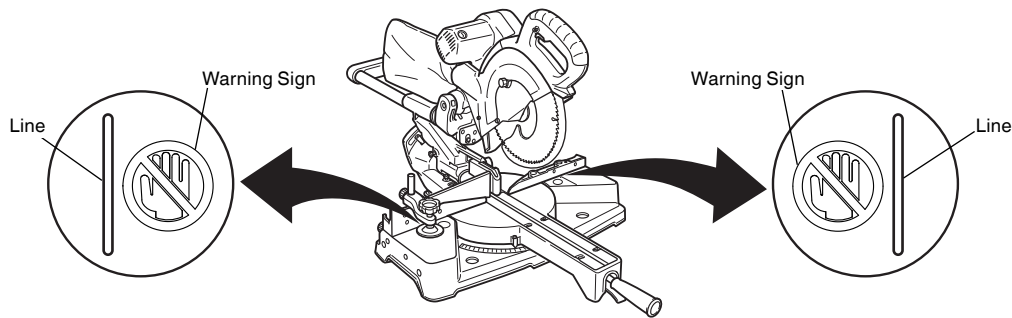

Fig. 22
* Never place your limbs inside of the line next to warning sign while the tool is being operated. This may cause hazardous conditions (see Fig. 22).